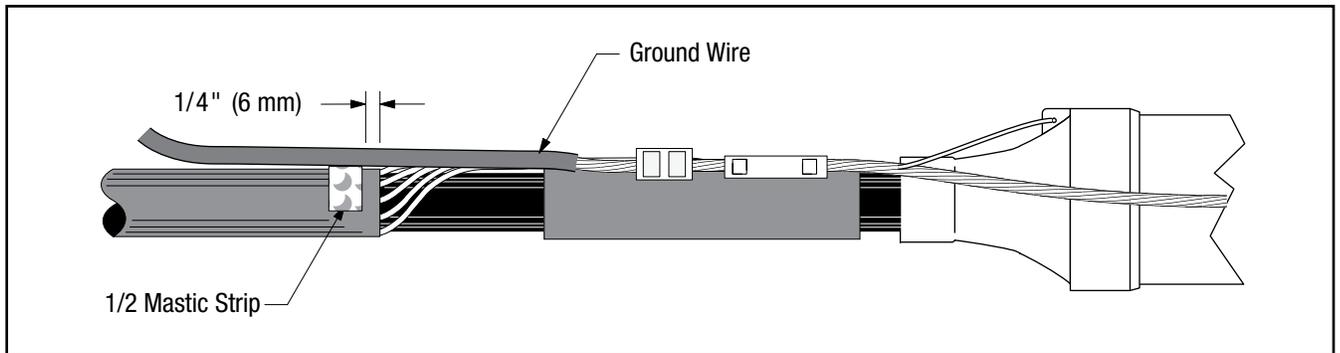

Figure 3
- 3.2 Cut one mastic sealing strip into two equal pieces. Place one piece on the cable jacket centered under the ground wire, near the jacket end (Figure 3).